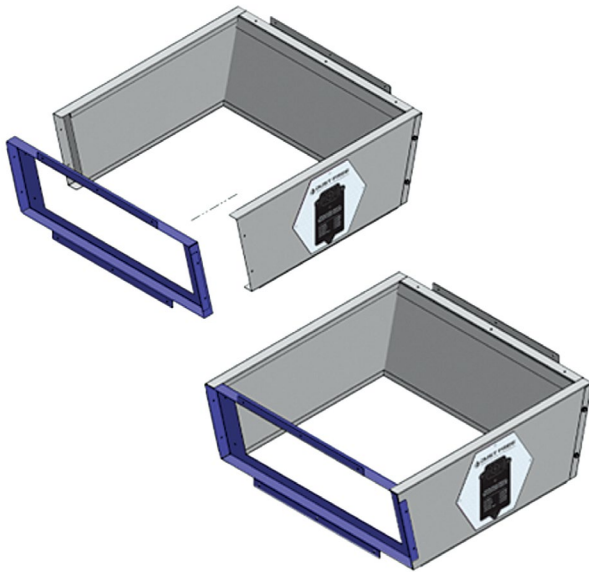

Figure 7: Door frame and unit alignment and assembly
6. Remove the door from the door frame. Align and insert the door frame into the side panels, with flanges outside the side panel as shown in **Figure 7**.